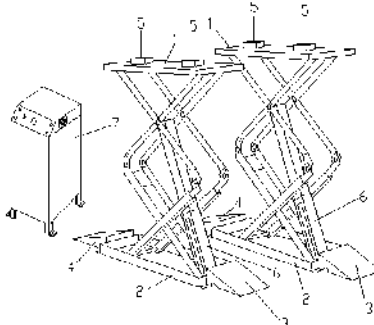

Fig.1
**3. BESCHRIJVING HEFBRUG (zie Fig.1)**